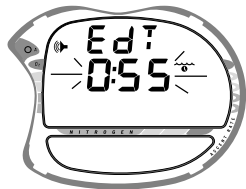

Fig. 21 - Set Elapsed Time Alarm
- The graphic **EdT**, and Alarm and Dive Time icons appear with the **Elapsed Dive Time** value flashing (Fig. 21).